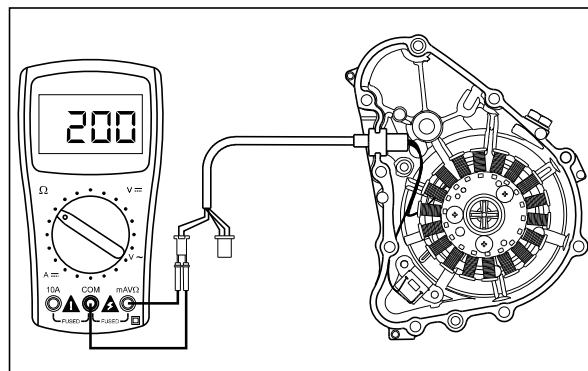

Fig. 5.9
- Connect pocket tester '+ve' lead to the brown wire (Br) of pulsar coil and '-ve' lead to white wire (W) of pulsar coil. (Fig. 5.9)